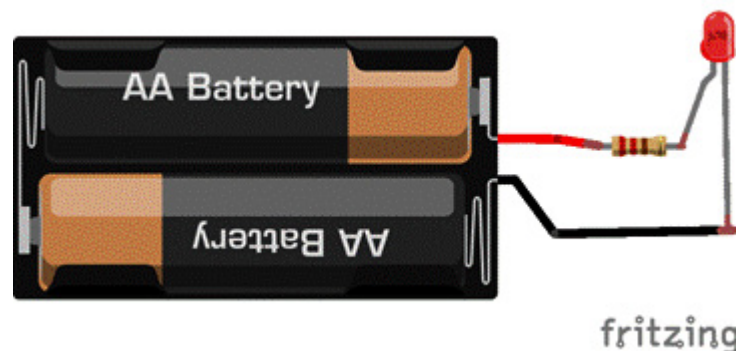

Figure 1.1 – An example of an electronic circuit
**Electronics** is the branch of technology and physics concerning the emission and behavior of electrons moving in a conductor, semiconductor, gas, or vacuum. Electronics also deals with the design of electronic circuits and devices. *Figure 1.1* shows a diagram of a basic electronic circuit consisting of a power source (the batteries), a resistor, and a light source (a light-emitting diode, or LED):